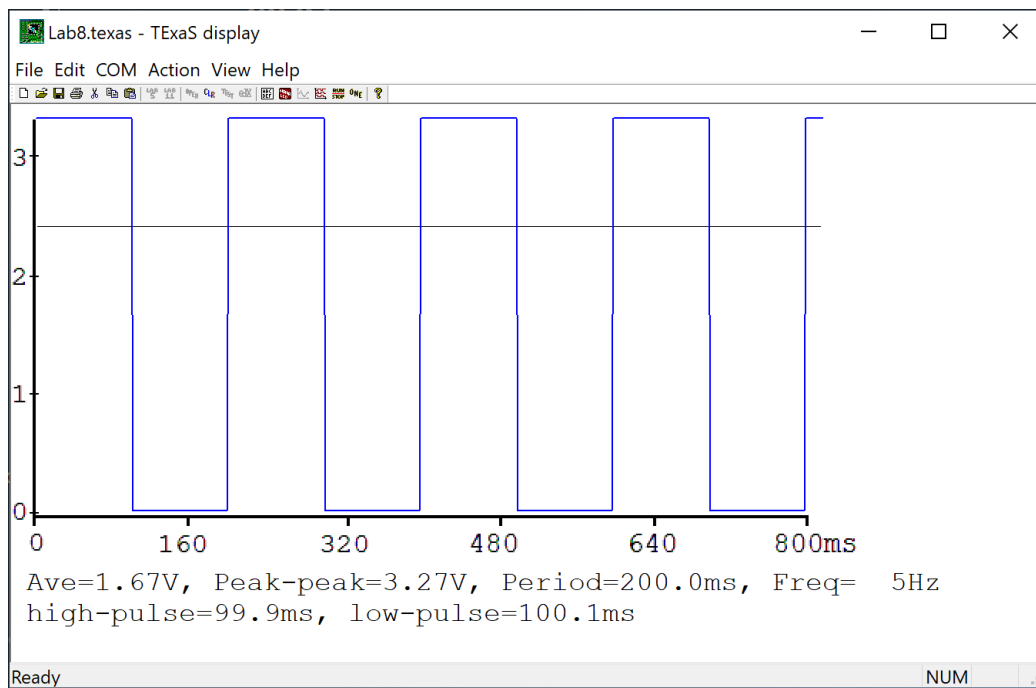

Figure 8.8. The oscilloscope connected to the LED pin verifies the sampling rate is 10 Hz .
Debug this system on the real TM4C123. Use the **TEaSdisplay** oscilloscope to observe the sampling rate. **Connect the LED heartbeat (the one toggled in the Timer3 ISR) to PD3 (TEaS scope)**. Take a photograph or screenshot of the LED toggling that verifies the sampling rate is exactly 10 Hz, as is shown in Figure 8.8.
Debug this system on the real TM4C123. Use the TExaSdisplay oscilloscope to observe the sampling rate. Connect the LED heartbeat (the one toggled in the Timer3 ISR) to PD3 (TExaS scope). Take a photograph or screenshot of the LED toggling that verifies the sampling rate is exactly 10 Hz, as is shown in Figure 8.8.
6. A photo or screenshot verifying the sampling rate is 10 Hz, like Figure 8.8 (part i)